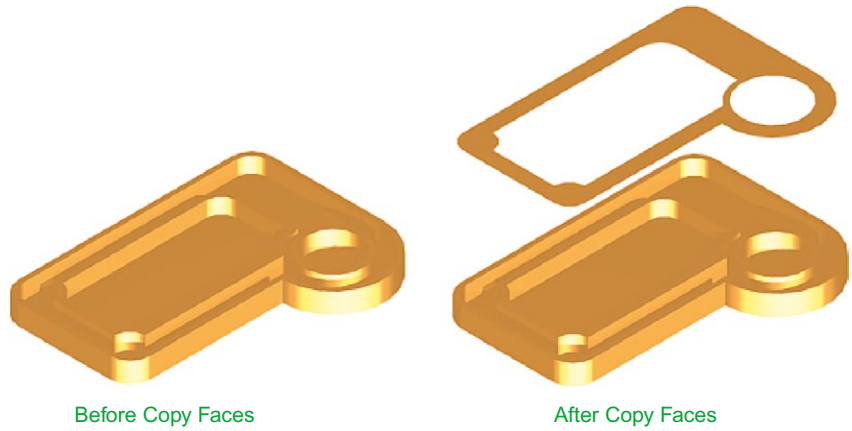

Fig. 18.10 Sixth example – Copy faces tool
Sixth example – Copy faces tool (Fig. 18.10)
3. Add lights and a material to the 3D model and its copied face and render (Fig. 18.10).